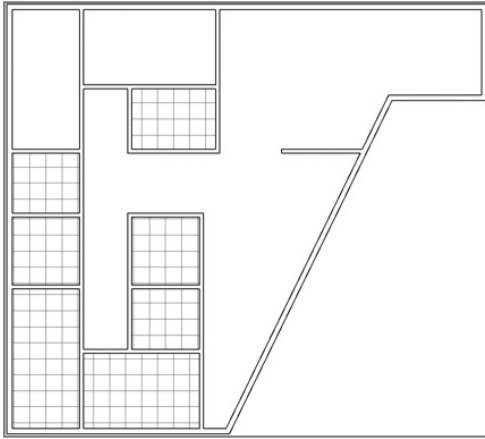

FIGURE 3.30 Resulting ceiling
4. Select the Ceiling tool on the Architecture tab, and pick inside the rooms to automatically place the remaining ceilings, as shown in Figure 3.30. Notice that Revit Architecture centers the grid based on the space you've selected.